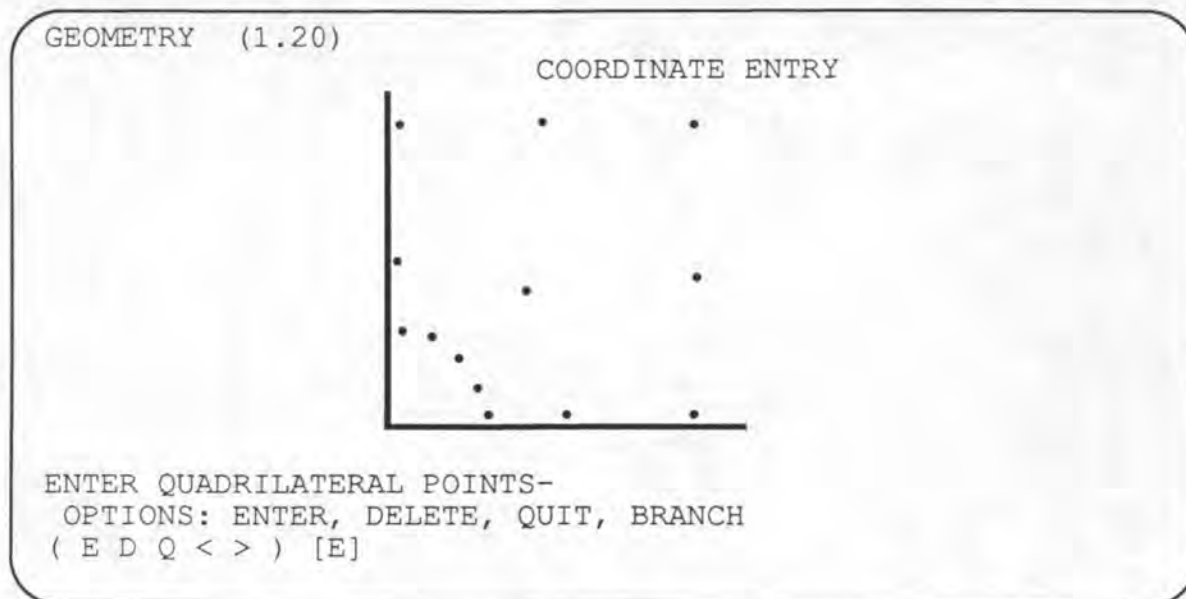

Fig 3.21 The region generation points
- Add the 13 points shown in Fig 3.21. PCE ignores extra points.